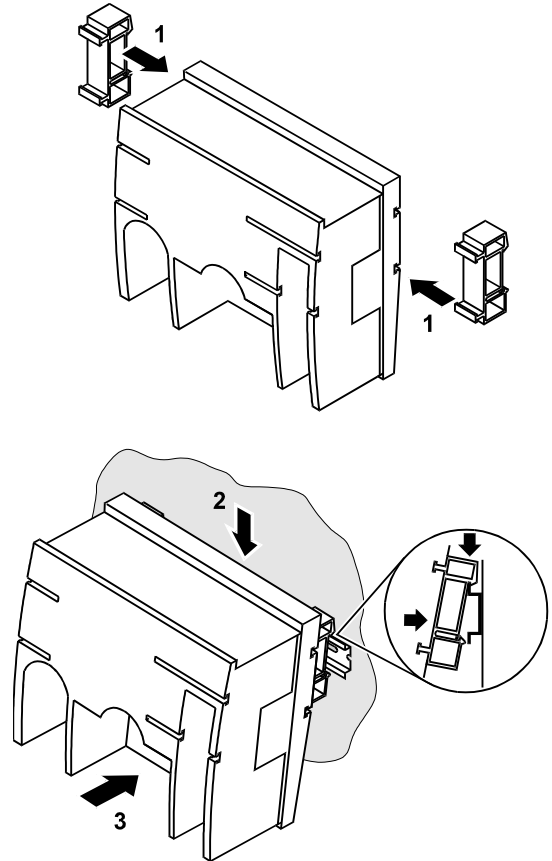

Fig. 11. Cabinet mounting without MMI
2. Attach the DIN rail mounting clips to the housing as shown in Fig. 11.
3. Mount the controller on the DIN rail as shown in Fig. 11.